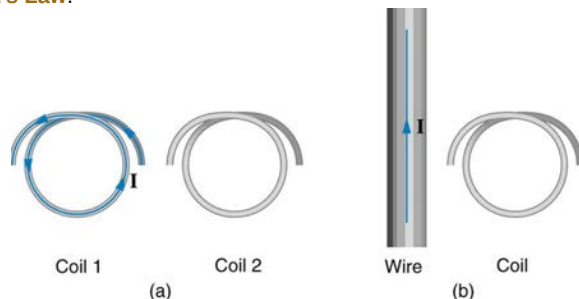

Figure 23.57 (a) The coils lie in the same plane. (b) The wire is in the plane of the coil
3. Referring to **Figure 23.57(a)**, what is the direction of the current induced in coil 2: (a) If the current in coil 1 increases? (b) If the current in coil 1 decreases? (c) If the current in coil 1 is constant? Explicitly show how you follow the steps in the **Problem-Solving Strategy for Lenz's Law**.
4. Referring to **Figure 23.57(b)**, what is the direction of the current induced in the coil: (a) If the current in the wire increases? (b) If the current in the wire decreases? (c) If the current in the wire suddenly changes direction? Explicitly show how you follow the steps in the **Problem-Solving Strategy for Lenz's Law**.
Approximately how does the emf induced in the loop in **Figure 23.57(b)** depend on the distance of the center of the loop from the wire?
(a) A lightning bolt produces a rapidly varying magnetic field. If the bolt strikes the earth vertically and acts like a current in a long straight wire, it will induce a voltage in a loop aligned like that in **Figure 23.57(b)**.